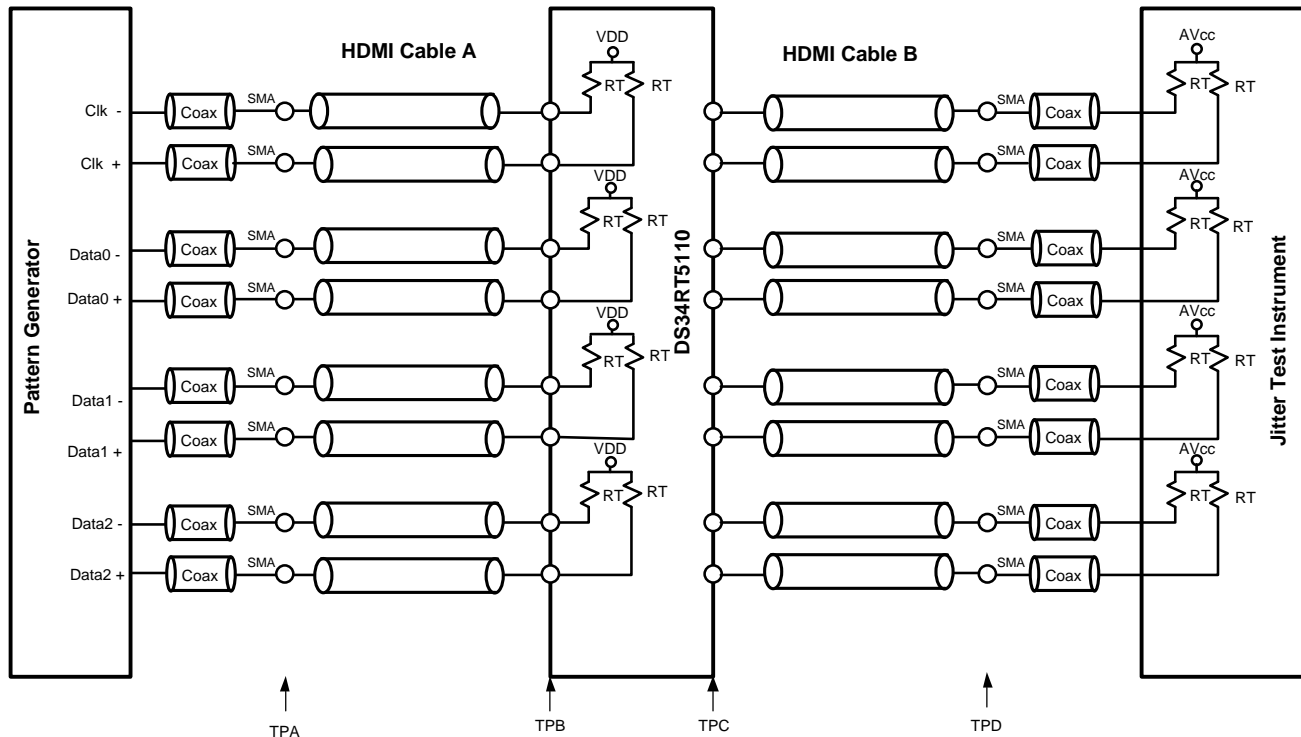

Figure 1. Test Setup Diagram
(3) Parameter is ensured by statistical analysis and/or design.
(4) Deterministic jitter is measured at the differential outputs (TPC of Figure 1), minus the deterministic jitter before the test channel (TPA of Figure 1). Random jitter is removed through the use of averaging or similar means.
(5) Total Jitter is defined as peak-to-peak deterministic jitter from + 12 times random jitter (ps).
(6) Random jitter contributed by the equalizer is defined as $\sqrt{J_{OUT}^2 - J_{IN}^2}$. J_{OUT} is the random jitter at equalizer outputs in ps-rms, see TPC of Figure 1; J_{IN} is the random jitter at the input of the equalizer in ps-rms, see TPA of Figure 1.
- (7) Parameter is ensured by statistical analysis and/or design.
- (8) Deterministic jitter is measured at the differential outputs (TPC of Figure 1), minus the deterministic jitter before the test channel (TPA of Figure 1). Random jitter is removed through the use of averaging or similar means.
- (9) Total Jitter is defined as peak-to-peak deterministic jitter from + 12 times random jitter (ps).